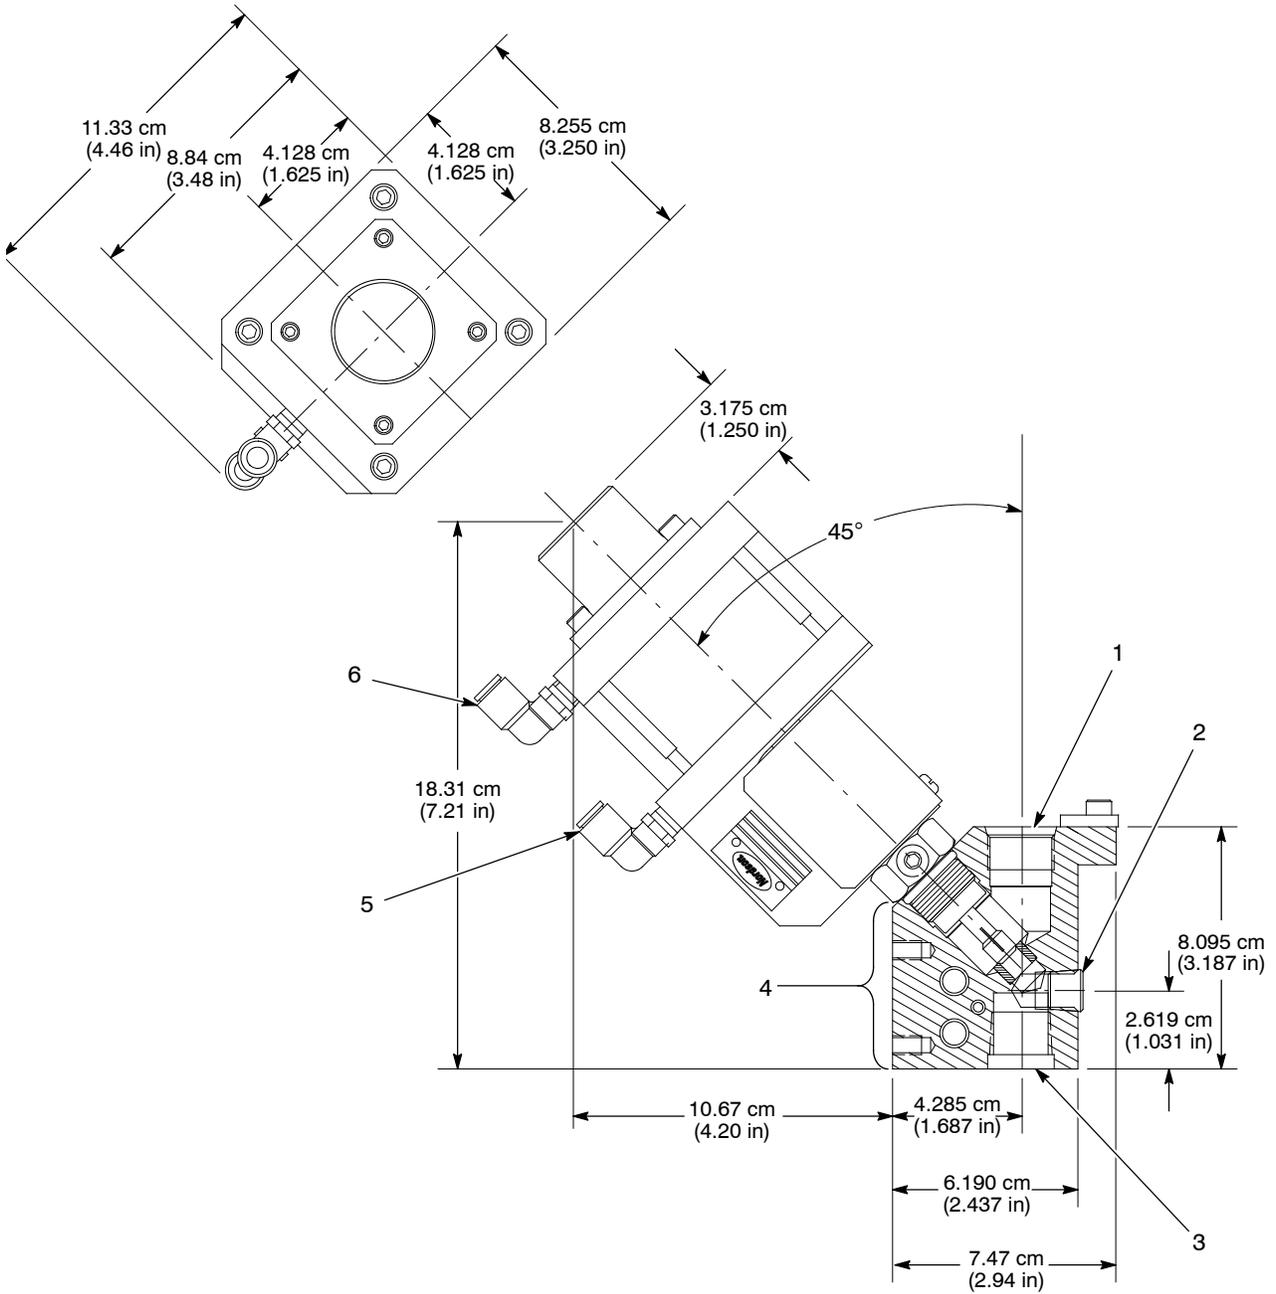
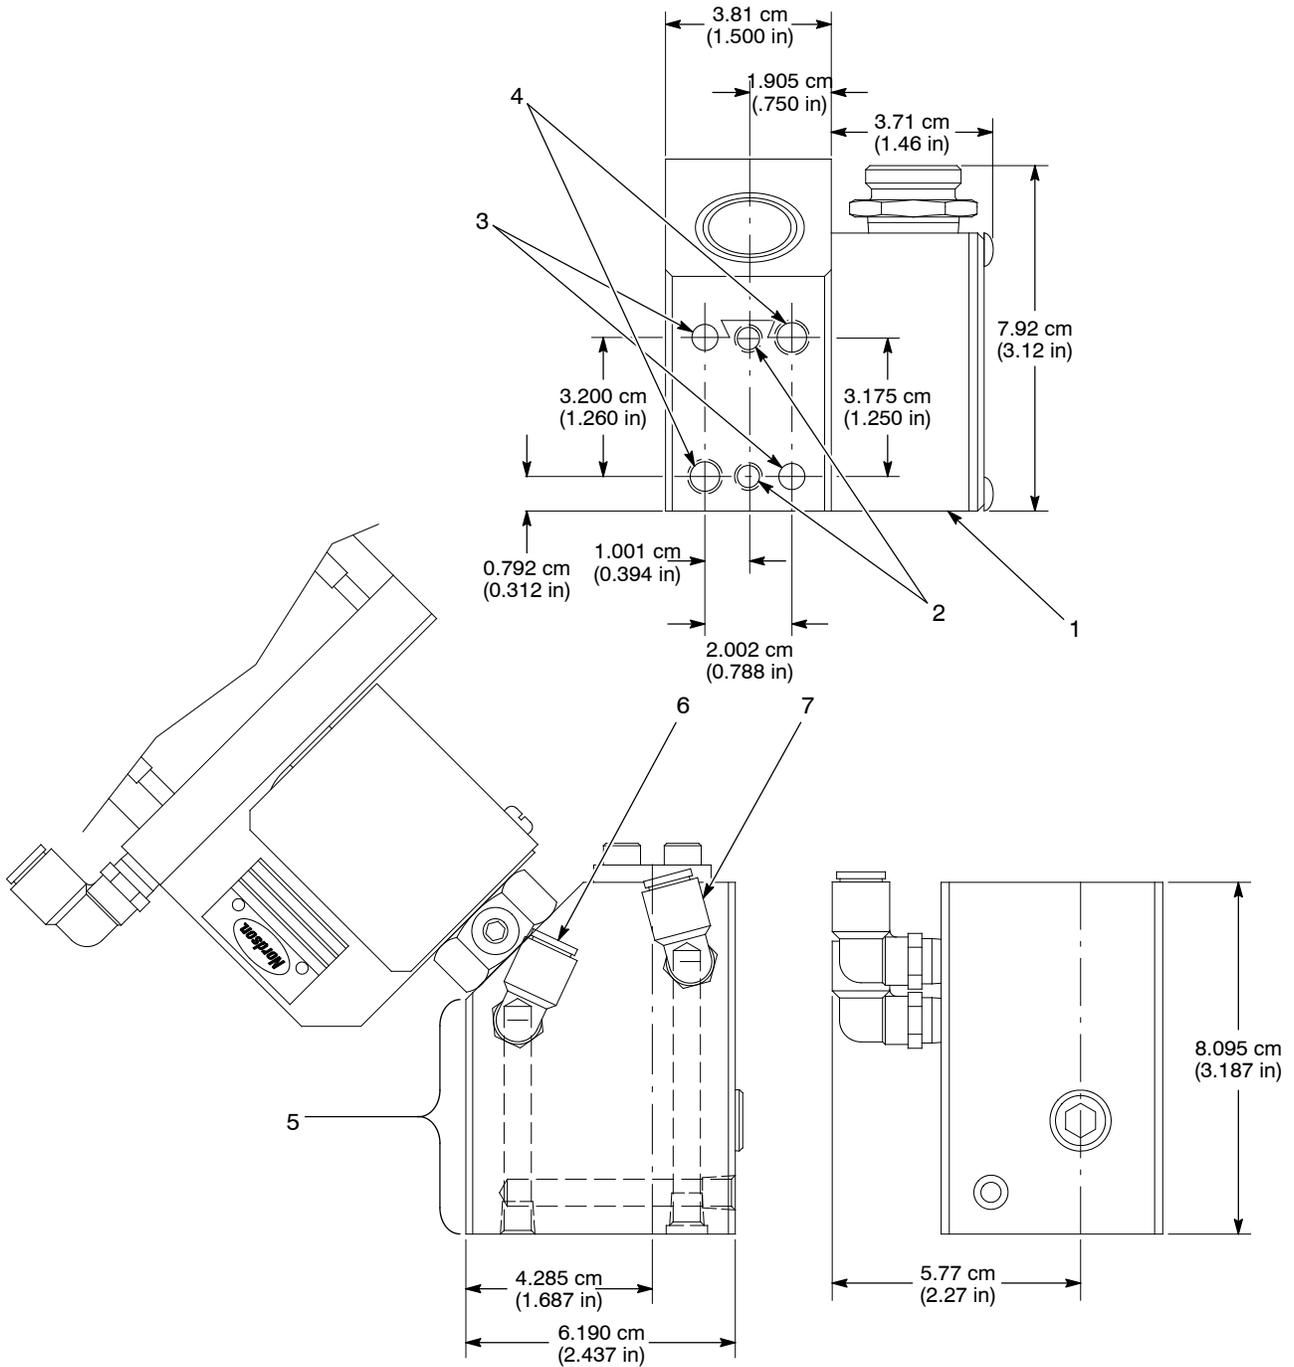
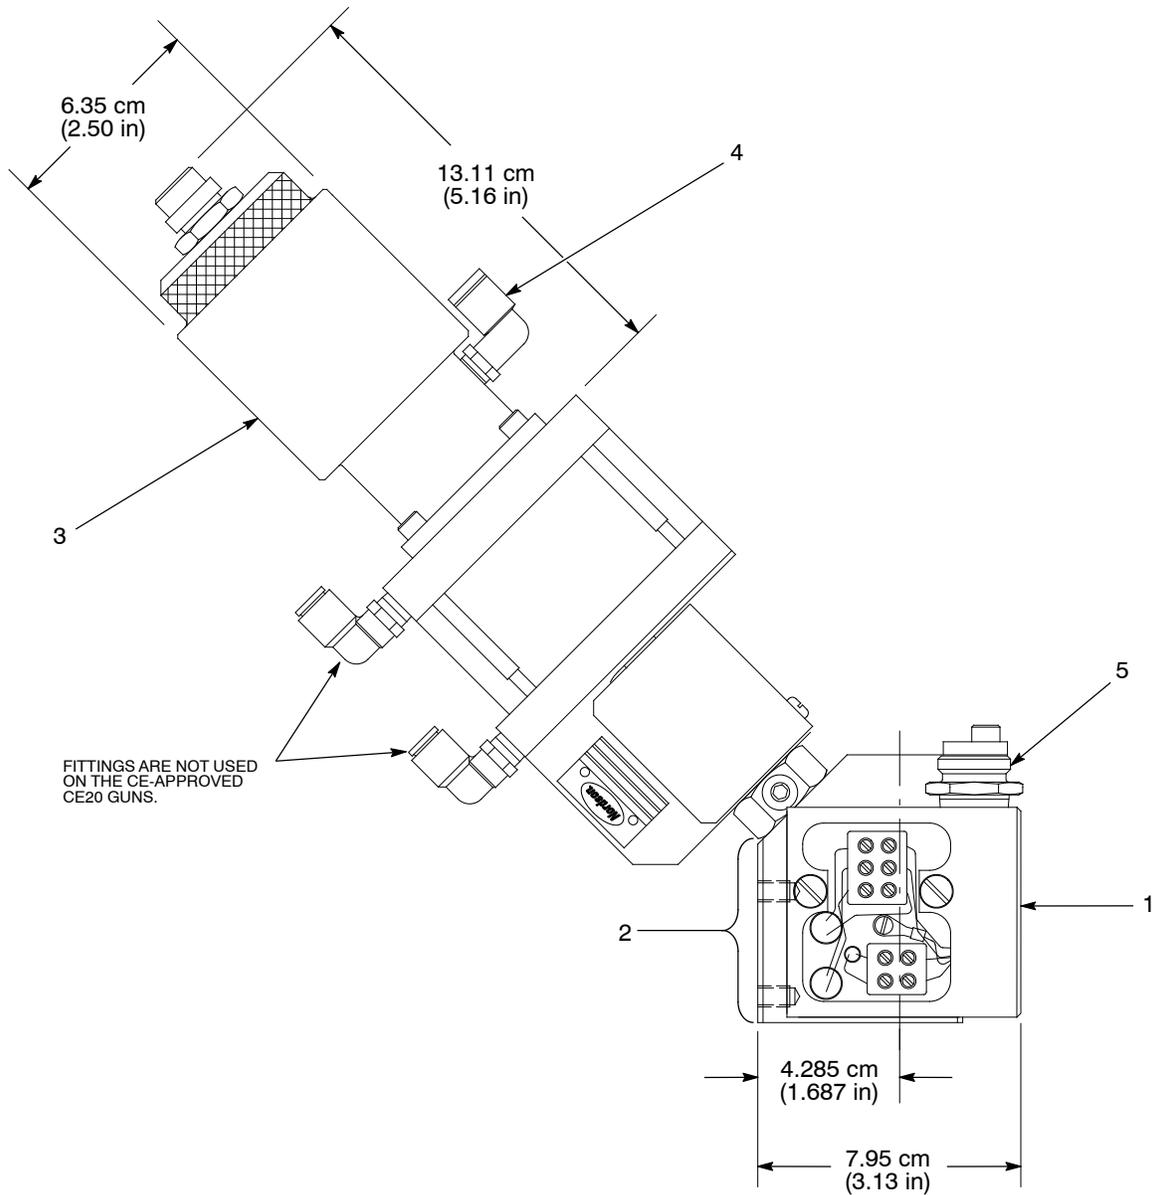

Figure 3 Typical CE20 Gun Dimensions (Unheated Gun and Top View)
Figure 4 Temperature Conditioned CE20 Gun and Surface Mounting Dimensions
Figure 5 Typical Heated CE20 Gun Dimensions with Spring Closure Assembly Option
See Figures 3 through 5 for the mounting dimensions specific to your model of CE20 gun. Figure 3 shows the mounting dimensions of the unheated gun and the top view typical of a guns. Figure 4 shows the mounting dimensions of a temperature conditioned gun and the surface mounting dimensions typical of all guns. Figure 5 shows the mounting dimensions of the heated gun and of the optional spring closure assembly.
See Figure 4. Mounting the gun to a robot arm requires the use of a customer-supplied end-of-arm tooling that has been specifically designed for the application. The CE20 guns have a mounting surface (5) that allows for several optional mountings: with $\frac{1}{4}$ -in. dowel pins (3), $\frac{1}{4}$ -20 mounting bolts (2), or M8 x 1.25 mounting bolts (4).
1. See Figure 3. Connect an air line from the gun-closed solenoid to the elbow at the gun-closed air port (6).
2. Connect an air line from the gun-open solenoid to the elbow at the gun-open air port (5).
3. See Figure 5. If your gun is equipped with an optional spring closure assembly, connect an air line to the spring closure assembly air inlet port (4).
See Figure 4. To install the temperature conditioning supply lines, connect a coolant hose to the temperature conditioning inlet port (6) and another hose to the temperature conditioning outlet port (7).